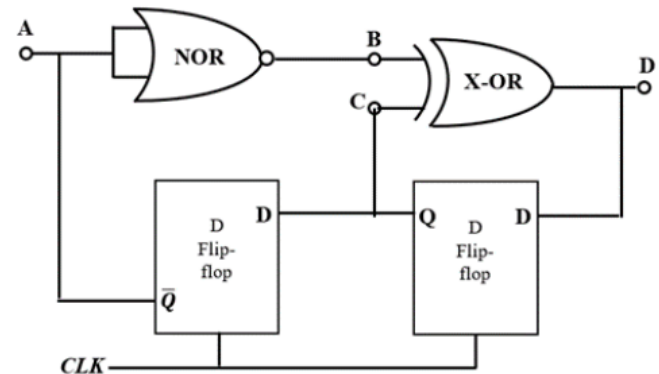

Fig. 5.10
10. Neglecting the delays due to the logic gates in the circuit shown in Fig. 5.10, the decimal equivalent of the binary sequence [ABCD] of initial logic states, which will not change with clock, is \_\_\_\_\_.